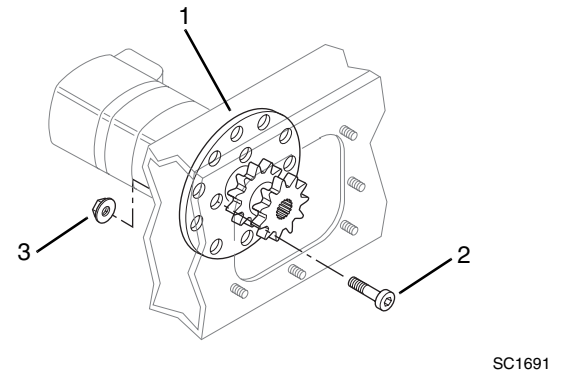

Figure 5-58 Drive Motor Hardware
5. Insert the drive motor into the mounting pilot on the inside wall of the chain case. Lift the drive sprocket (Fig. 5-58, 1) up, and line up its splines with the splined shaft of the drive motor. Insert the motor spline shaft through the drive sprocket and push the motor in, until the motor flange is fully seated against the chain case wall.
6. Place new motor mounting cap screws (Fig. 5-58, 2) through the frame and motor by way of the access hole in the drive sprocket. Secure the cap screws (2) with new nuts (3) and torque to 135-150 lb/ft (183-203 Nm).